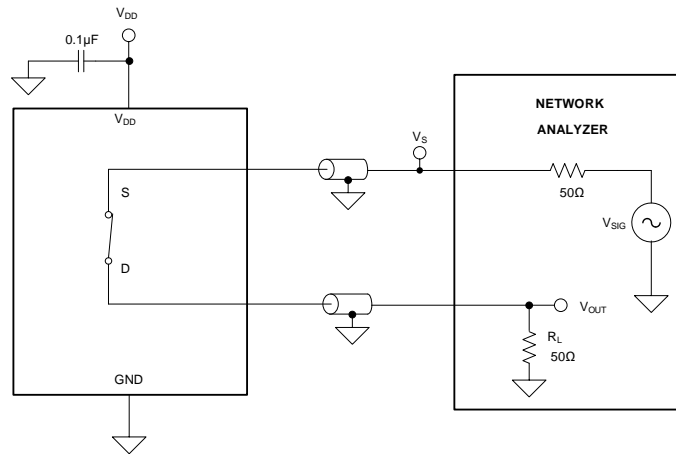

图 22. Bandwidth measurement setup
Bandwidth is defined as the range of frequencies that are attenuated by less than 3 dB when the input is applied to the source pin (S) of an on-channel, and the output is measured at the drain pin (D) of the device. The characteristic impedance, Z_0 , for the measurement is $50\ \Omega$. 图 22 shows the setup used to measure bandwidth.